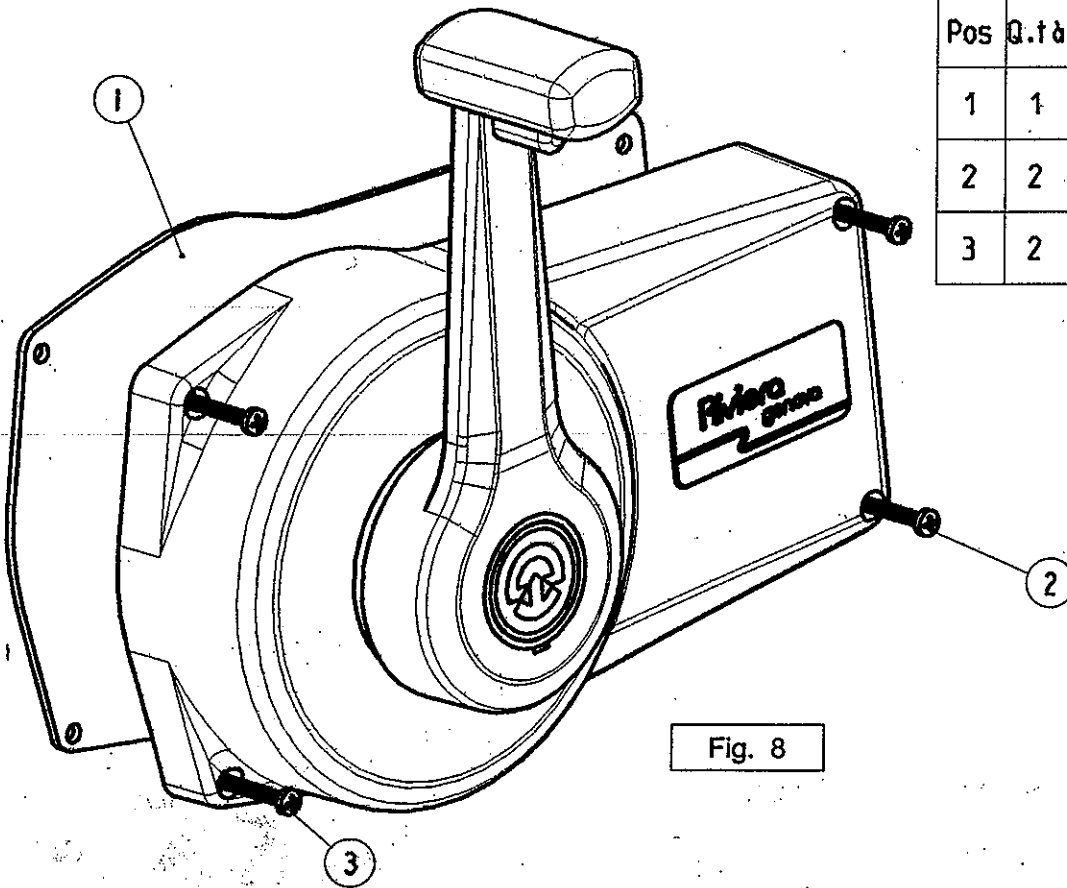

Fig. 8
1. Position the single lever box in the desired position. Insert the cover (1).
Fix it by means of n°. 2 self-tapping screws dia 4x40 (3) and n°. 2 self-tapping screws dia 4x60 (3) (see Fig. 8).